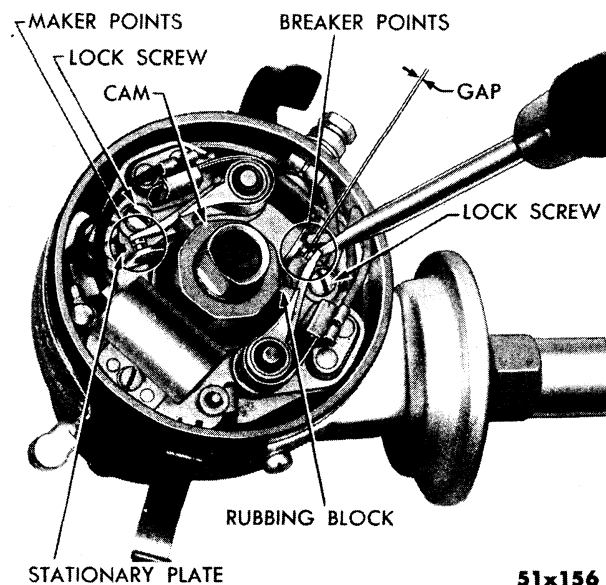

Fig. 20—Installing and Aligning Contacts
41. INSTALLING AND ALIGNING CONTACTS (FIG. 20)
Remove cam felt and spring clip retainer from center of cam. Disengage anti-rattle spring and remove cam and yoke. Place distributor in vise and attach dial indicator to body (Fig. 20). Move shaft to and from dial indicator with just enough force to indicate clearance. Replace bushings and/or shaft if side play exceeds .005 inch. Drive rivet from collar and shaft, and slide shaft from distributor body. Wash all parts in solvent, except breaker plate assembly and vacuum unit. Clean these parts with a brush moistened with solvent. Blow parts dry with compressed air.